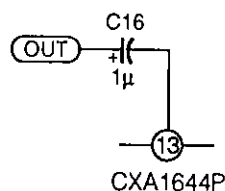

Fig.1
- Fig. 1 shows the polarity of C16 when the DC operating point of the OUT pin is higher than Vcc/2 of the CXA1644P.
- When the DC operating point of the OUT pin is equal to Vcc/2 of the CXA1644P, either of Figs. 1 and 2 will do.